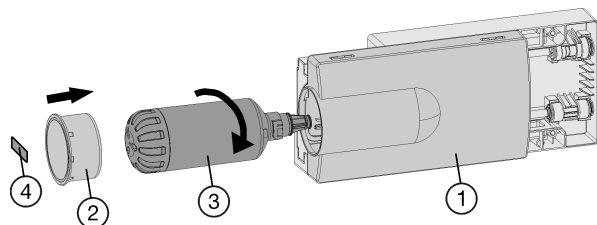

Fig. 49
- ▶ Insert the water filter *Fig. 49 (3)* and turn it approximately 100° clockwise until it locks into position.
- ▶ Slide the tray *Fig. 49 (1)* in.
- ▶ Place the cover *Fig. 49 (2)* on the filter.
- ▶ Write the date of the next filter replacement on the supplied adhesive label *Fig. 49 (4)* and affix it to the module.